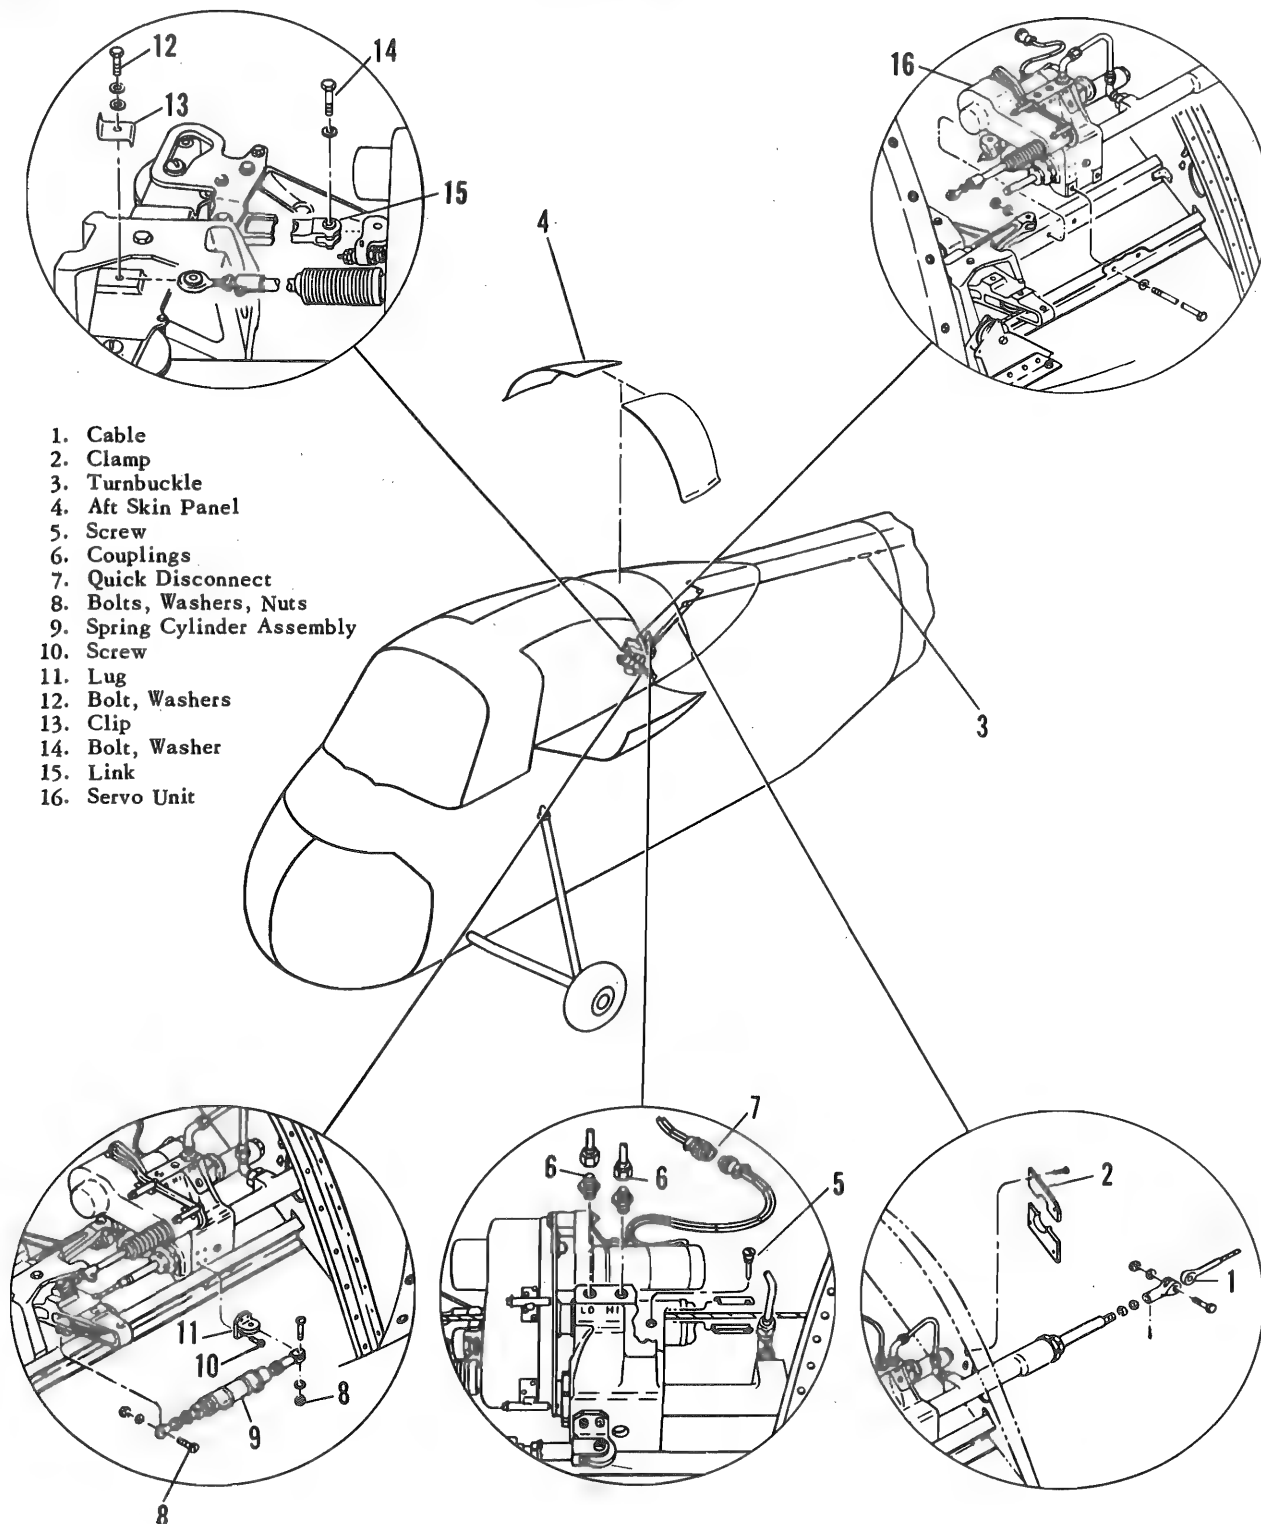

Figure 7-24. Tail Rotor Servo Unit Removal
a. In cabin at frame aft of tail rotor servo unit, unfasten soundproofing and disconnect terminal from control cable. Remove cotter pin, back off check nuts, and remove terminal and check nuts from cable (1, figure 7-24). Remove clamp (2) around servo unit cylinder at frame.
b. In tail cone, disconnect tail rotor control cable at turnbuckle (3) on left side and work cable through pulleys. Remove pulleys as necessary.
c. Hinge down service platforms. Remove aft skin panel (4).
d. Pull control cable out through power piston. Take out screws (5) remove guides, and pull other control cable out through housing. Reinstall screw (5).
e. Disconnect hydraulic lines from servo unit housing at couplings (6).
f. On model CH-34C disconnect wiring to servo motor assembly at quick disconnect (7).
g. On model CH-34C, remove nuts, washers, and bolts (8) from spring cylinder assembly (9). Remove spring cylinder assembly.
h. On model CH-34C, remove screws (10) from lug (11) and remove lug.
i. Remove bolt and washers (12) and clip (13) from pedestal assembly.
j. Remove bolt and washer (14) from link (15).
k. Disconnect servo unit (16) from supporting channels and remove from helicopter.
7-138. INSTALLATION. (See figure 7-24.)